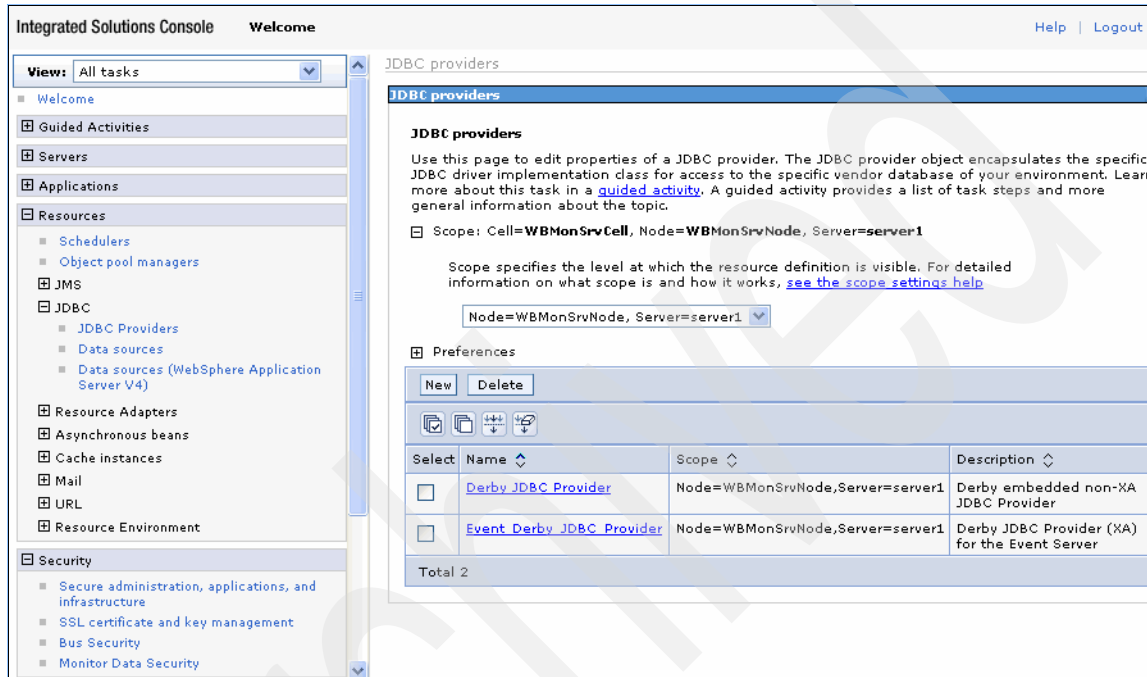

Figure 9-24 Setting the scope
1. In the Administrative Console (Figure 9-24), expand **Resources** → **JDBC** and click **JDBC Providers**. In the right pane, set the scope to **server**. Click the **New** button to create a new JDBC provider.